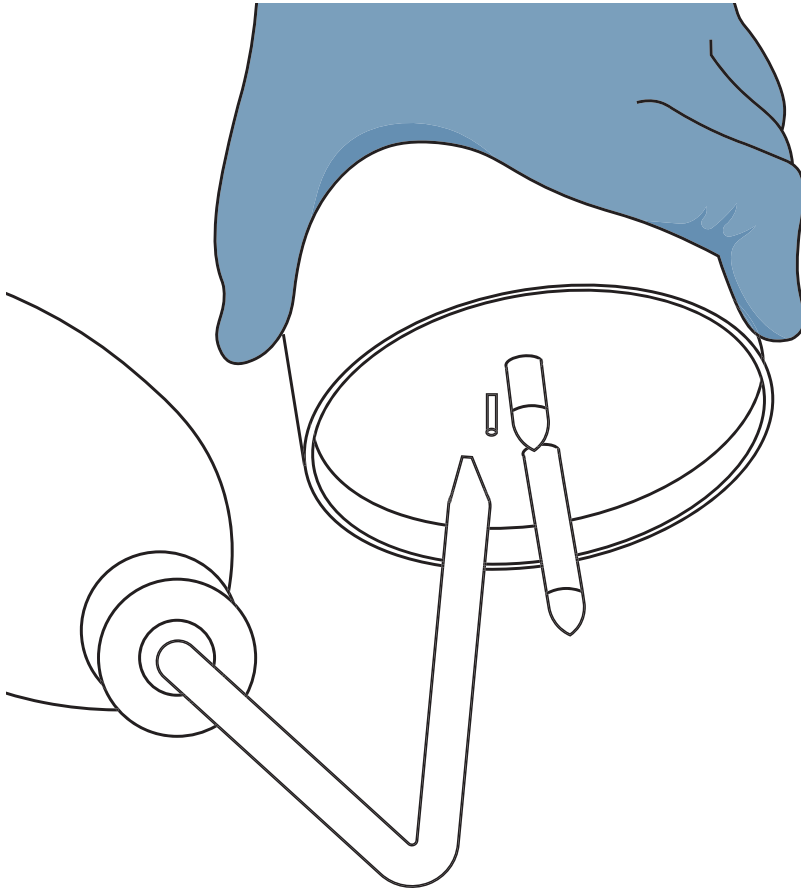

Figure 74 Clean the sensor unit positioned upside down with running water
2. Clean the HYPROP sensor unit and the tensiometer shafts positioned upside down under running water (Figure 74).